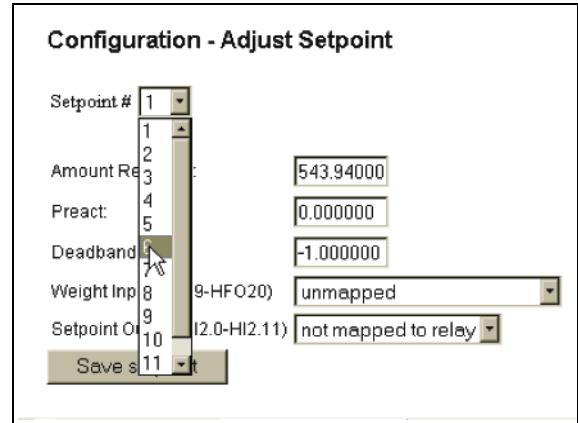

FIG. 3-21 ADJUST SETPOINT PAGE/SELECTING RELAY OUTPUT
- Click on the pull down menu next to Setpoint Output (HI2.0 - HI2.11) (See Fig. 3-21)